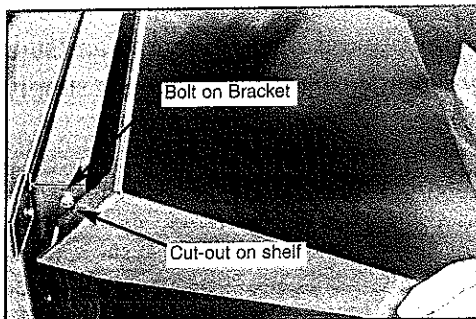

Fig. 11
3. Attach side shelves by lining up the cut-out on the inside edge with the bolt head on the bracket. Once lined up, slide shelf towards grill and push down. This will lock shelf in place. (See Fig. 11)